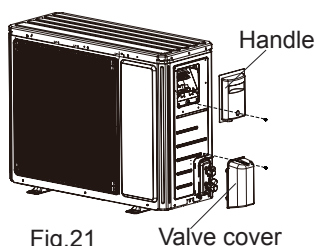

Fig.21
- (1) Remove the screw on the handle and valve cover of outdoor unit and then remove the handle and valve cover.(As show in Fig.21)